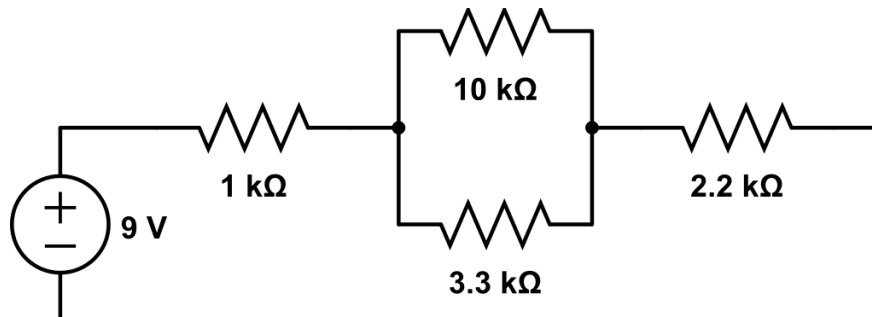

Figure 4
- Measure each of the four resistors shown in figure 4 with your multimeter and make note of the measurement uncertainties.
- Using your HP power supply set to 9 volts, build the circuit in figure 4.